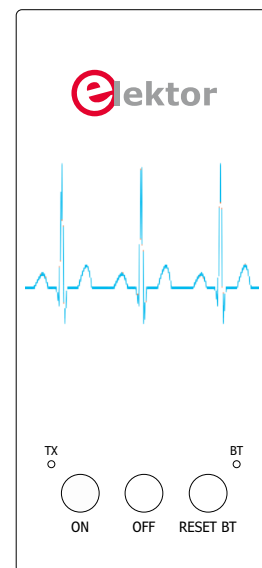

Figure 20. Front panel design with 3 buttons and 2 LEDs.
is shown in the front panel drawing (Figure 20): S1 = Off (and microcontroller reset), S2 = On, S3 = Bluetooth Reset, D3 = Data Transmission to the Android Terminal (TX) and D4 = Bluetooth Module Status (BT).